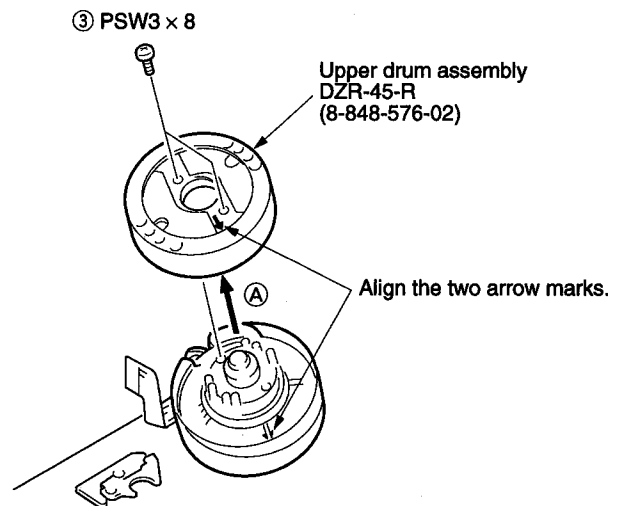

Fig. 5
- 3) Remove two screws ③ (PSW3×8) and remove the rotary upper drum in the direction of (A). (Refer to Fig. 5.)
- 2) Align \Rightarrow mark of the rotary upper drum board with the \Rightarrow mark of the rotary transformer board so that the screw hole on the upper drum and that on the lower drum are aligned. (Refer to Fig. 5.)
- 4) Tighten the two screws ③ (PSW3×8). (Refer to Fig. 5.)
- 5) Fix the earth shaft ② by tightening the screw ① (+P3×8) so that protrusion at the tip of the earth shaft contacts the center of the drum shaft.